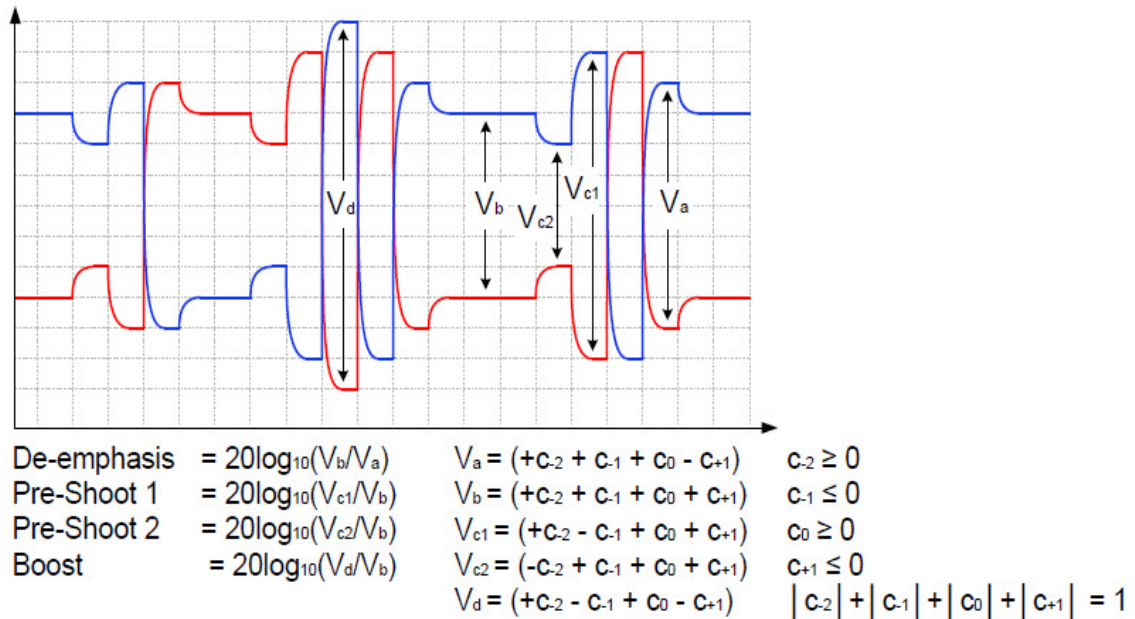

Figure 32 Waveform measurement points for preshoot and de-emphasis
64.0 GT/s PCIe signaling must support the full range of presets given in Table 8-2 (PCIe Base Specification Revision 6.0). Presets are defined in terms of ratios, relating the pre-cursor and post-cursor equalization voltages. The pre-cursor (V_c) is referred to as pre-shoot, while the post-cursor (V_b) is referred to as de-emphasis. This convention permits the specification to retain the existing 2.5 GT/s and 5.0 GT/s definitions for Tx equalization, where only de-emphasis is defined, and it allows preshoot and de-emphasis to be defined such that each is independent of the other. The tolerances in Table 8-1 (PCIe Base Specification Revision 6.0) also apply to 2.5 and 5.0 GT/s de-emphasis. The maximum swing, V_d , is also shown to illustrate that, when both c_{+1} and c_{-1} are nonzero, the swing of V_a does not reach the maximum as defined by V_d . The high frequency nature of PCIe signaling makes measurement of single UI pulse heights impractical. Consequently all amplitude measurements are made with low frequency waveforms as shown in Figure 32.
- 13 Computes their equalization voltages by using Matlab, and then calculates equalization ratios by using the formulae stated in Figure 32 (Figure 8-6 of the spec).